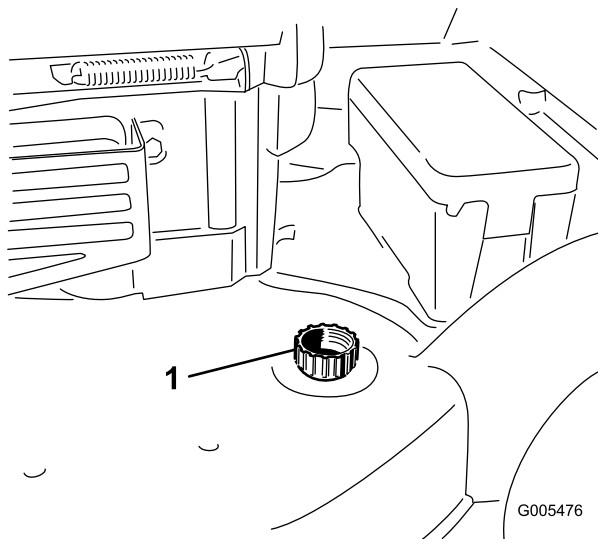

Figure 43
3. Attach a garden hose that is connected to a water supply to the washout port on the mower housing (Figure 43).